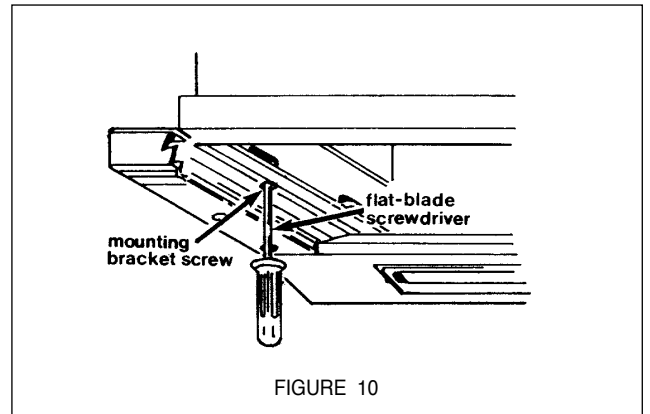

FIGURE 10
6. Using a flat blade screwdriver, tighten the mounting brackets to secure the rangehood to the cabinet bottom and to eliminate the space between the rangehood and cabinet bottom as indicated in FIGURE 10.